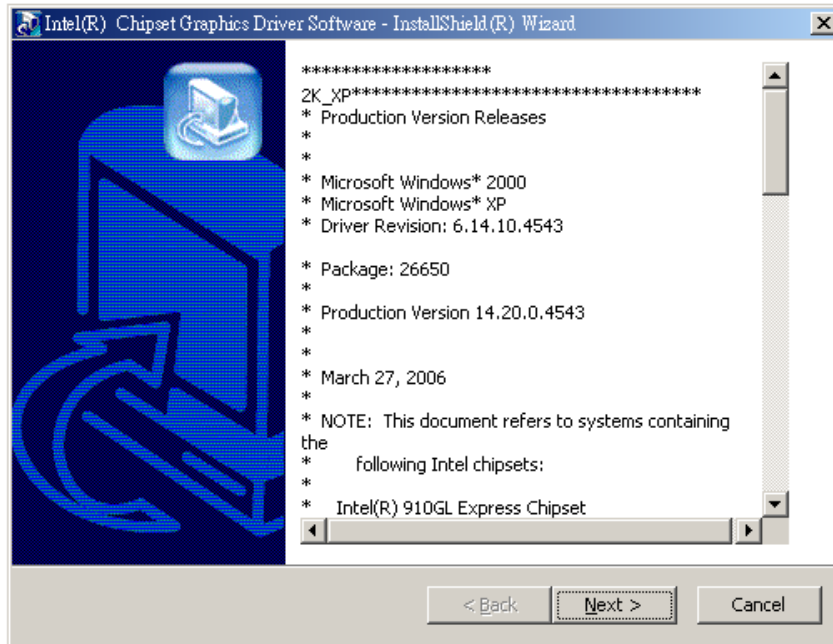

Figure 6-6: Starting Install Shield Wizard Screen
Step 3: The Starting Install Shield Wizard appears (**Figure 6-6**).